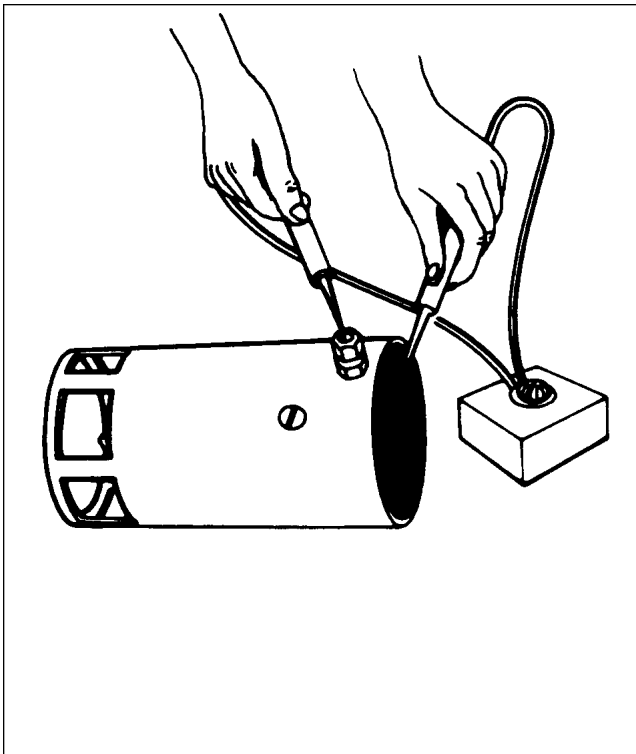

Figure 11-52. Testing Motor Fields for Grounds
a. Check the field coils for grounds (refer Figure 11-52.) by placing one test probe on the frame and the other on the starter terminal. Be sure the brushes are not accidentally touching the frame. If the lamp lights, the fields are grounded. Repair or Replace.